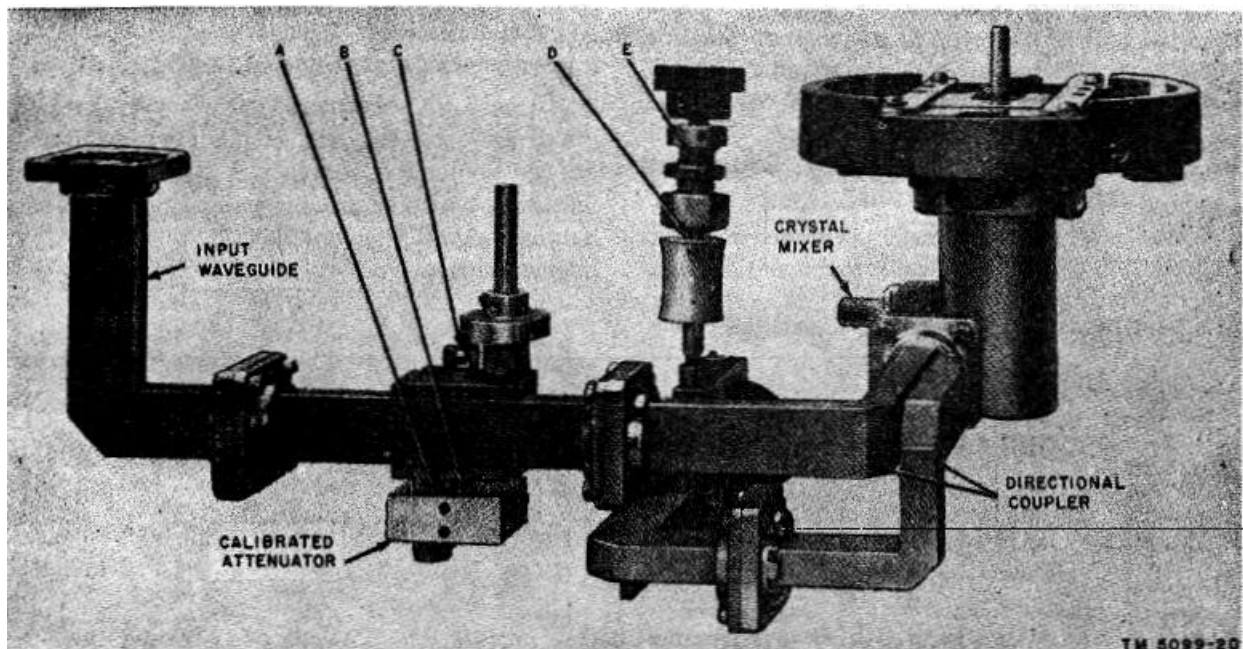

Figure 18. Lubrication of RF plumbing assembly.
3	Remove dirt, oil, and moisture from complete waveguide assembly (fig. 18) and Klystron tube (fig. 50). If necessary moisten the cloth with cleaning compound, then wipe the parts with a clean cloth.
26, 31	Inspect the complete waveguide assembly (fig. 18) for rigidity. Tighten all mountings and support brackets (fig. 50). Be sure that the entire waveguide assembly is fastened firmly. Do not tighten connections too tight, threads on bolts may be stripped.
(2) *Dial slide (A).* Cover with a thin film of oil (OA1).
(3) *Plunger shaft (B).* Put 1 or 2 drops of oil (OA1) on the shaft.
b. *Lubrication of RF Plumbing Assembly* fig. 18). Remove the spectrum analyzer from the cover and lubricate the RF plumbing as follows:
(1) Guide shaft of calibrated attenuator (A). Put 1 or 2 drops of oil (OA1) along the shaft.